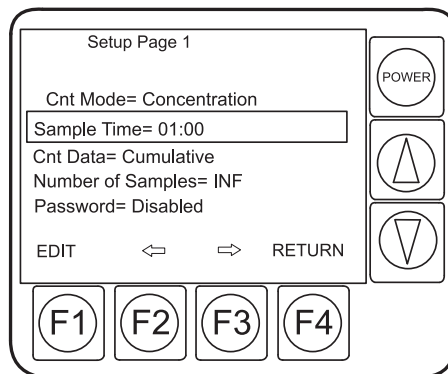

Figure 9 Select sample time
- Press the **DOWN** arrow key to move to the Sample Time field (refer to Figure 9 on page 20).
Use the **UP** and **DOWN** arrow keys to select the second selection line of Sample Time or Sample Volume. When Sample Time is highlighted, the display will change from "PAGE 2" to "EDIT" (refer to Figure 9). The display will change back to "PAGE 2" when the cursor is moved to another line or the Sample Time is changed to Sample Volume.